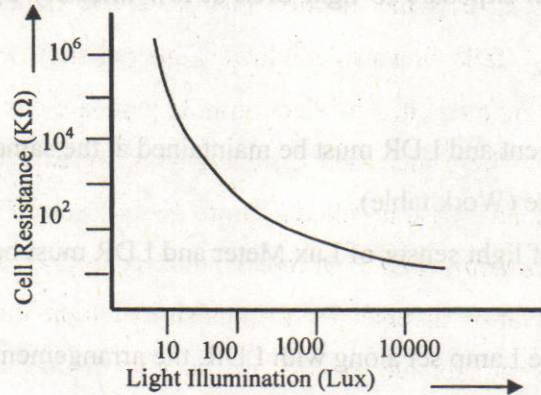

Fig.8.2
7. Mark the observed points and join them by a smooth curve as shown in Fig.8.2.